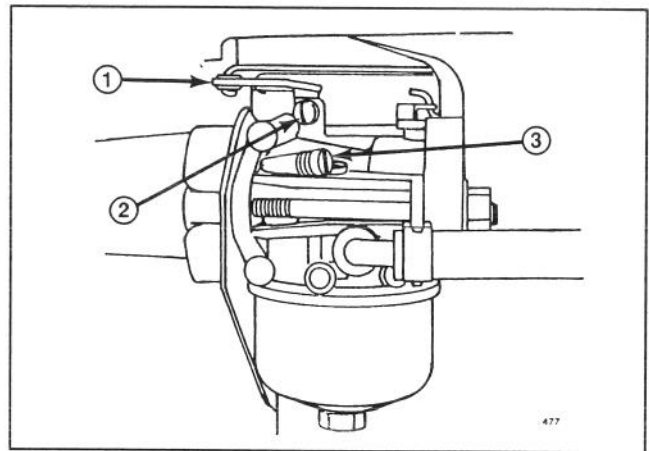

Figure 14
1. Gently turn the idle mixture valve clockwise until it just closes (Fig. 14). Turning the valve in too far may cause damage.
4. Rotate the throttle (Fig. 14) counterclockwise and hold against the idle speed adjusting screw (Fig. 14) while turning the idle speed adjusting screw to obtain 1750 rpm.